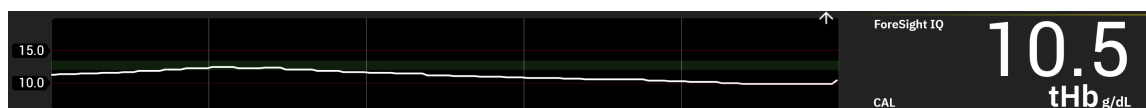

Figure 12-17: tHb parameter display
Total blood hemoglobin (tHb) is updated every 2 seconds and is provided as a numerical value measured in g/dL of blood. This value is displayed on the monitor as a static numerical value and as a trended value. An example of a calibrated tHb display is shown in Figure 12-17 on page 244.
7. A message is displayed after successful initialization to indicate a completed tHb calibration. The parameter display for tHb shows a calibrated tHb value (tHb). See Figure 12-17 on page 244.